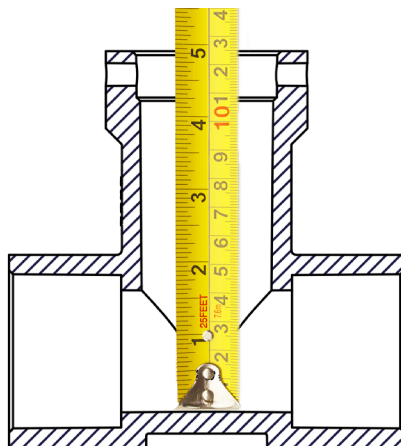

Figure 11
1. Dipstick Method (For 2 in., 3 in. and 4 in. meters only): The interior depth of the meter body indicates its size. To check, remove the old insert from the meter body and insert the end of a stiff tape measure down into the insert bore until it touches the bottom of the meter body bore. Read the depth shown on the tape measure at the top of the Tee housing (see Figure 11) and compare with dimension "D" in the specifications section (see Figure 1).